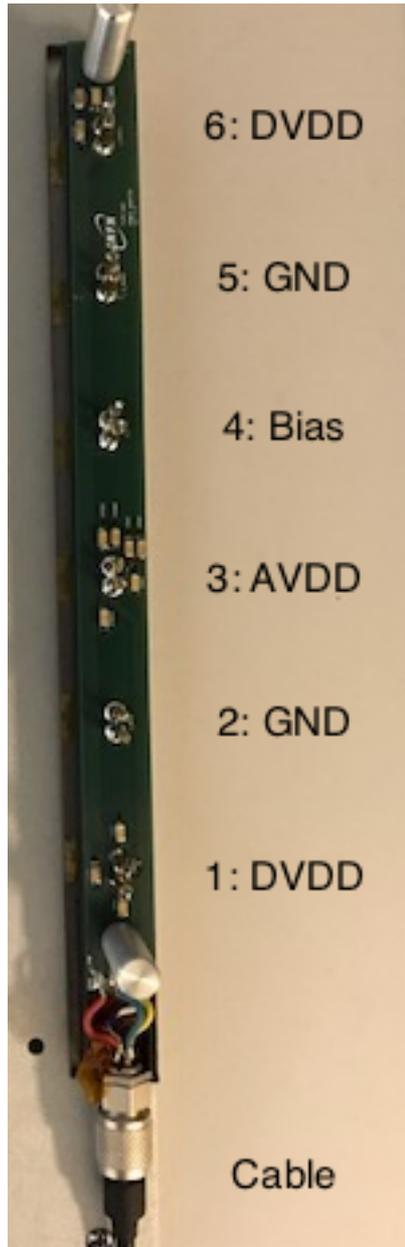

Figure 11: Power adaptor with voltage connected to each pin pair. The connector is at the bottom.
In all tests, except the full stave test, power is provided through spring-loaded power adaptors (Figure 2), which are connected reversibly to the cross-cables of the HICs. When screw tightening the power adaptors to the ground plate, **please make sure to avoid any lateral movements in order to not damage the cross-cables and their connection to the FPC.** Figure 11 shows the voltages connected to the different pins of the power adaptors.
- 3) By means of a multimeter find out which lines of the cable prepared under 1) are connected to which pin of the power adaptor and solder them to the breakout board according to the scheme given in Figure 11 and Table 1.
Before using the power board it is recommended to do a first test if everything is connected correctly. For this the powerboard GUI can be used, which is in the same software repository as the test GUI, but in the subfolder /MosaicSrc/powerboard/GUI. To compile it, execute the same two steps as for the main GUI (qmake-qt5 -makefile; make). Then start it with ./pbGUI. In this GUI you can switch on/off channels and set voltages and check whether they appear on the adaptor pins where you would expect them (cf. Figure 11).